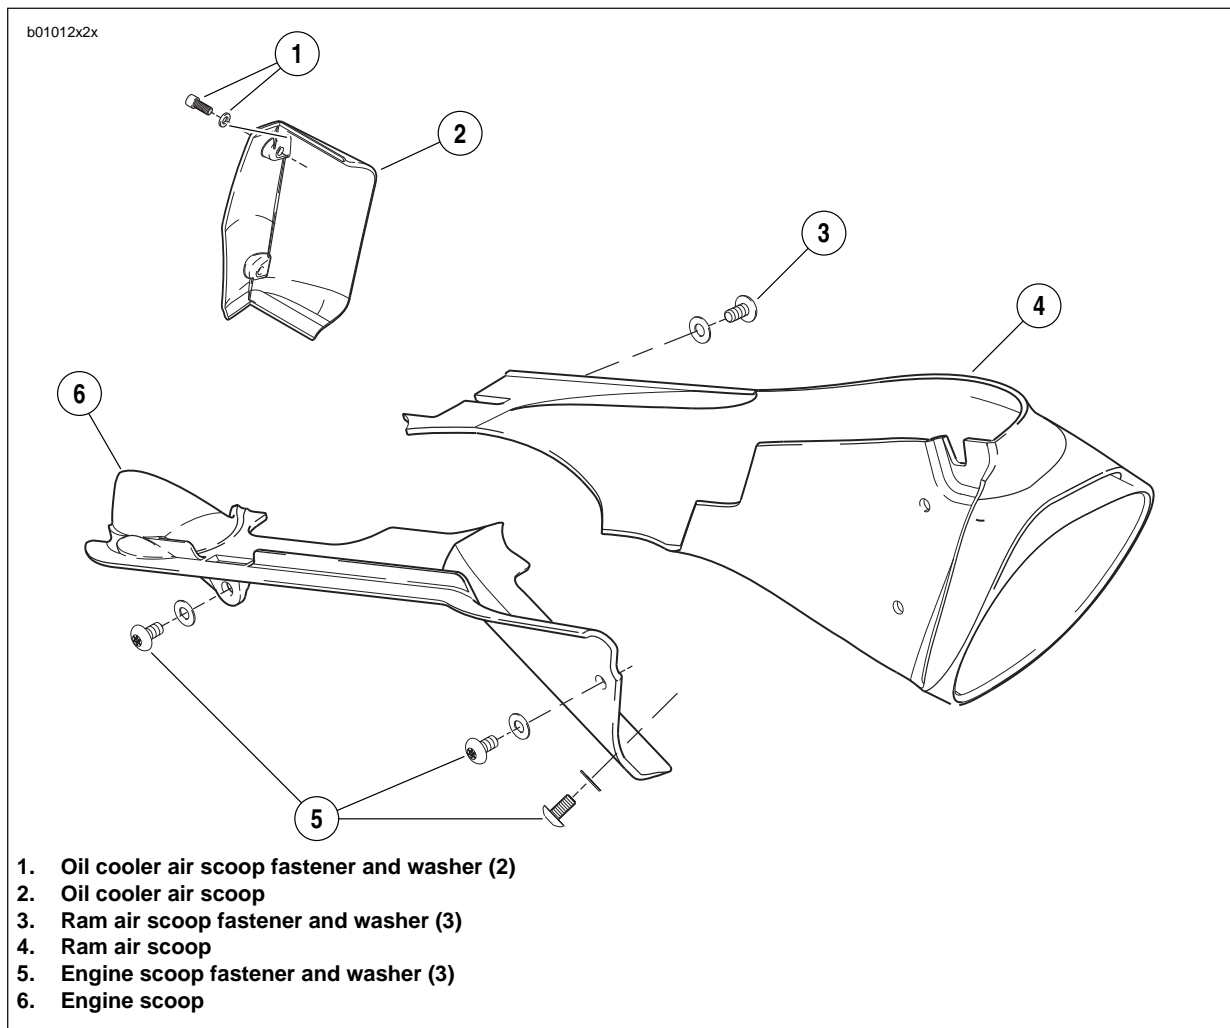

Figure 2-126. RAM Air Scoop, Engine Shroud, Oil Cooler
1. See Figure 2-126. On left side of bike, locate ram air scoop (4).
2. Remove three ram air scoop fasteners (3).
3. Remove ram air scoop (4).
1. See Figure 2-126. Position ram air scoop (4).
2. Install ram air scoop (4) with three fasteners (3). Tighten to 12-36 **in-lbs** (1-4 Nm).
1. See Figure 2-126. On right side of bike, locate engine shroud air scoop (6).
2. Remove three engine shroud air scoop fasteners (5).
3. Remove engine shroud air scoop (6).
1. See Figure 2-126. Position engine shroud air scoop (6).
2. Install engine shroud air scoop (6) with three fasteners (5). Tighten to 12-36 **in-lbs** (1-4 Nm).
1. See Figure 2-126. On left side of bike, locate oil cooler air scoop (2).
2. Remove two oil cooler air scoop fasteners (1).
3. Remove oil cooler air scoop (2).
1. See Figure 2-126. Position oil cooler air scoop (2).
2. Apply **LOCTITE 271** (red) to oil cooler air scoop fasteners (1) and tighten to 48-72 **in-lbs** (5.4-8.0 Nm).